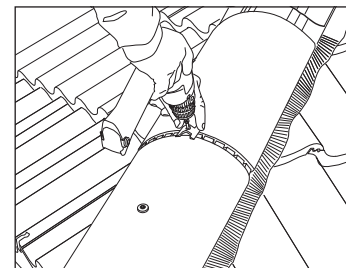

Fig. 12 – Fixing Hip Unions
- 11 Position next Hip tile into open side of Hip Union and Clamp assembly. Continue process of laying support trays (centrally along hip tree at 100mm overlap), hip tiles, unions and clamps ensuring that all tiles are aligned. Ensure screws are tightened well and the edges of the Hip tiles sit evenly on Hip Support Trays (Fig. 12).